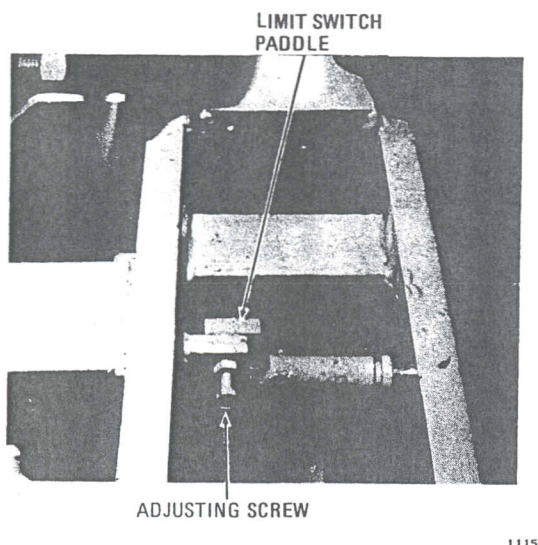

Figure 5-8. Upper Limit Switch Paddle
**PADDLE ADJUSTMENT - UPPER LIMIT SWITCH.** If it is necessary to adjust the operation of the paddle operated limit switch, loosen the adjusting screw (Figure 5-8) so the paddle is set in its lowest position. Retighten the adjusting screw. Reposition the cams to correct the plugging time as described in the previous paragraph.